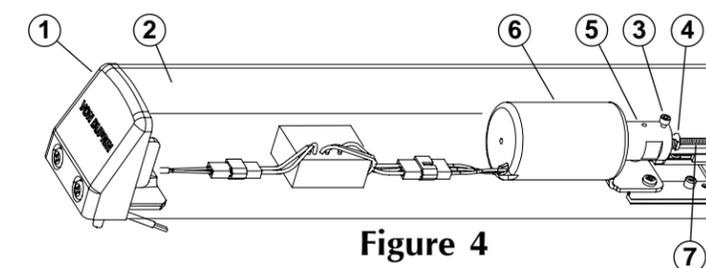

Figure 4
C. Adjust solenoid if dogging rod is too **long** (see Figure 4):
1. Remove end cap ① and dogging cover ②.
2. Loosen cap screw ③.
3. Hold plunger ⑤ depressed in solenoid housing ⑥.
D. Solenoid adjustment if dogging rod adjustment is too **short** (see Figure 4):
4. Turn threaded bushing ④ out to lengthen dogging rod ⑦ so plunger ⑤ just bottoms in solenoid housing ⑥ and latch bolt is fully retracted.